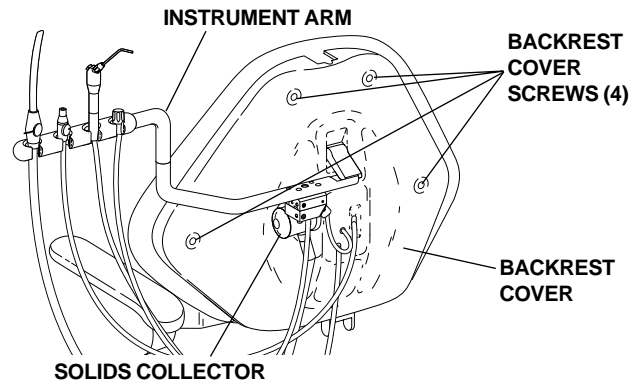
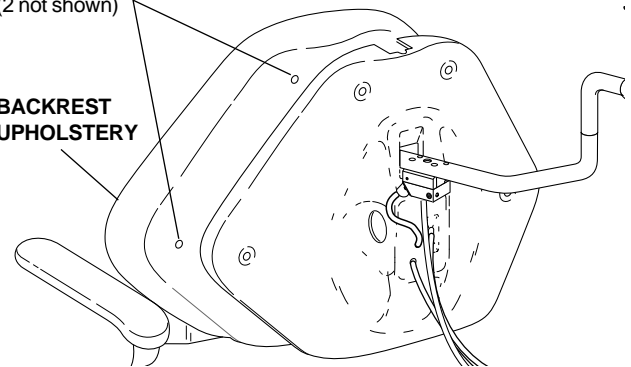

FIGURE 2
FIGURE 3
4. Remove the solids collector from the chair backrest by pulling it out of its connector. Remove the four screws that secure chair backrest cover (see Figure 2). Carefully pull the cover away from the chair backrest, allow the cover to hang on the instrument arm (see Figure 3).
5. Remove the four 10-32 x 5/8" (15.9 mm) long button-head screws that secure the chair backrest upholstery (see Figure 3), then remove the backrest upholstery and set aside.